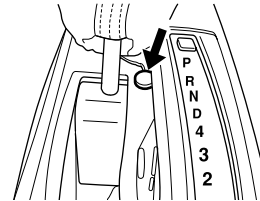

FIGURE 13
3. Locate and remove the small oval cap near the forward, right side of shift mechanism (figure 13).